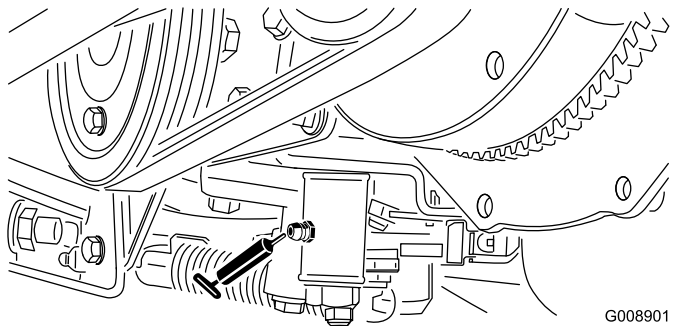

Figure 57
- Neutral adjust mechanism (Figure 57)